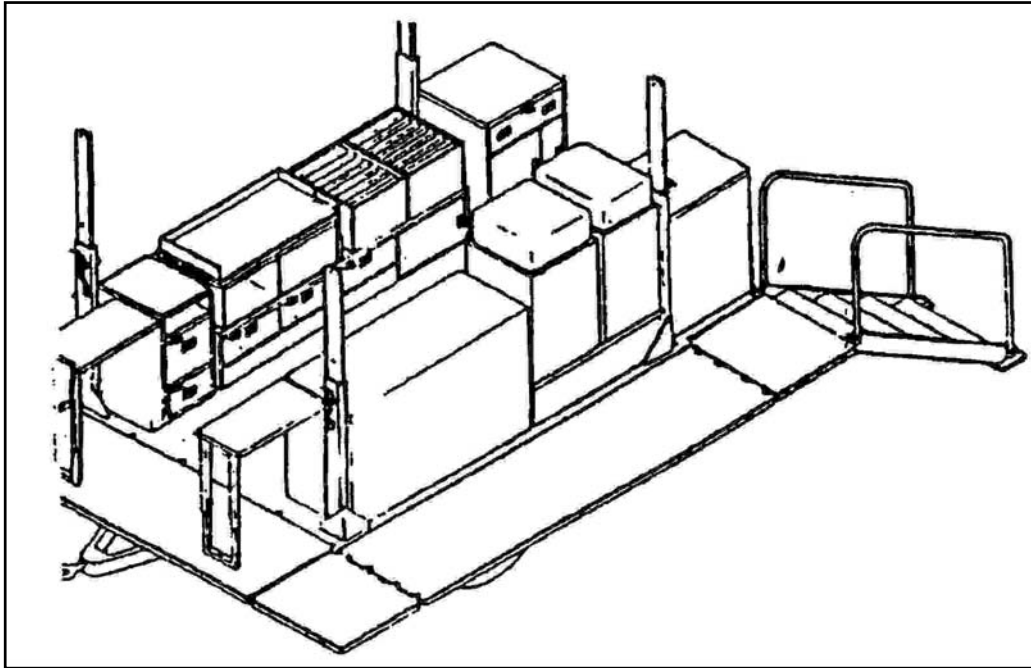

Figure 3-6. Movable Cabinet and Ice Chest
- i. Have them place the ice chest next to the field range on the rear ramp (see Figure 3-6, page 3-8).